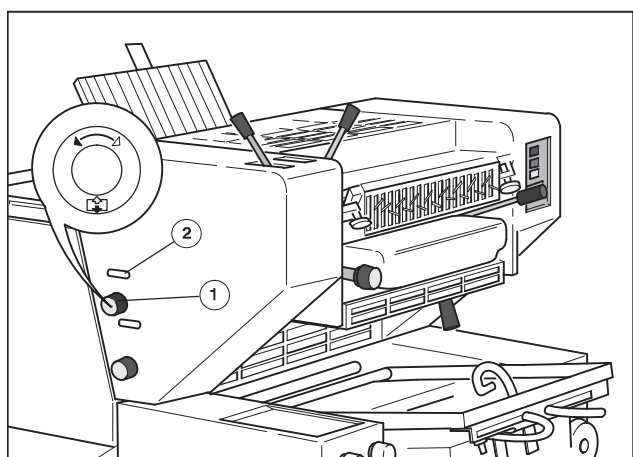

Fig. 19 Lateral register, PU 2
The printed image in can be moved ± 2.5 mm to the side towards the printed image in PU 1 by turning the adjusting wheel at PU 2 on O.S. (Fig. 19/1)
1. Turn the control knob (Fig. 19/1).
2. Read the setting at the scale (Fig. 19/1).